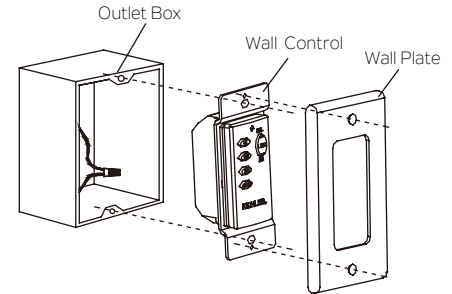

Fig. 28
Step 2. Use the screws provided to secure the wall control to the outlet box. (Fig. 28)